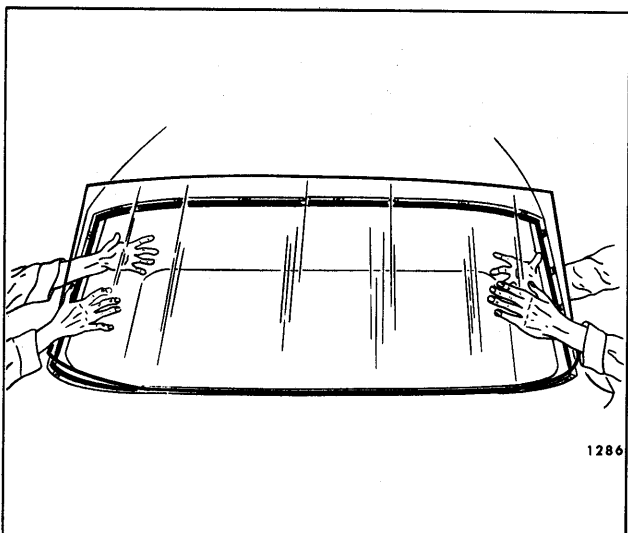

Fig. 4-6—Windshield Installation
8. With the aid of a helper, lift glass into window opening. On back window installations it will be necessary to use suction cups to position glass in opening. On windows with narrow body pillars at the side edges of glass, the glass can be positioned without the aid of carrying devices. As shown in Figure 4-6, carry glass with one hand on inside of glass and one hand on outside. At the window opening, put glass in horizontal position. While one man holds glass in this position, the second man can reach one arm around the body pillar and support the glass while the other man assumes the same position.
6. With the aid of a helper, lift glass into window opening. On back window installations it will be necessary to use suction cups to position glass in opening. On windows with narrow body pillars at the sides, the glass can be positioned without the aid of carrying devices as described in step 7 and shown in Figure 4-6.